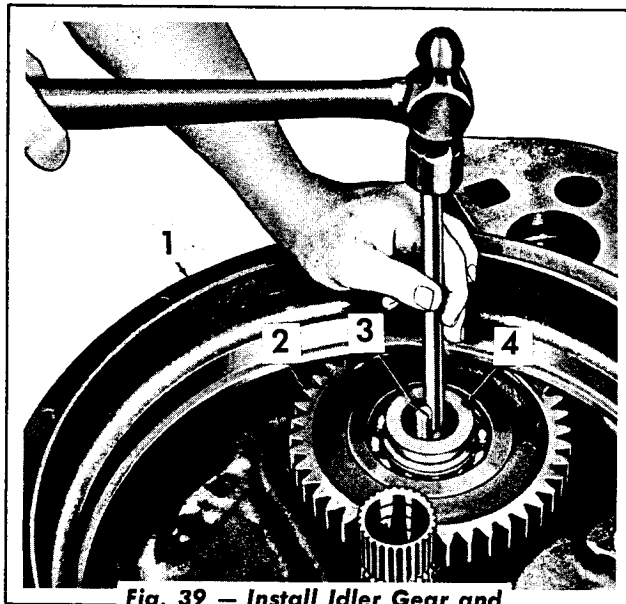

Fig. 39 — Install Idler Gear and Bearing Assembly
3. Position the converter housing (Fig. 39) to rest on its front surface and install the idler gear and bearing with the hub side down. Using a guide bolt, install the idler gear spindle. Tap on the spindle to set it in its bore.